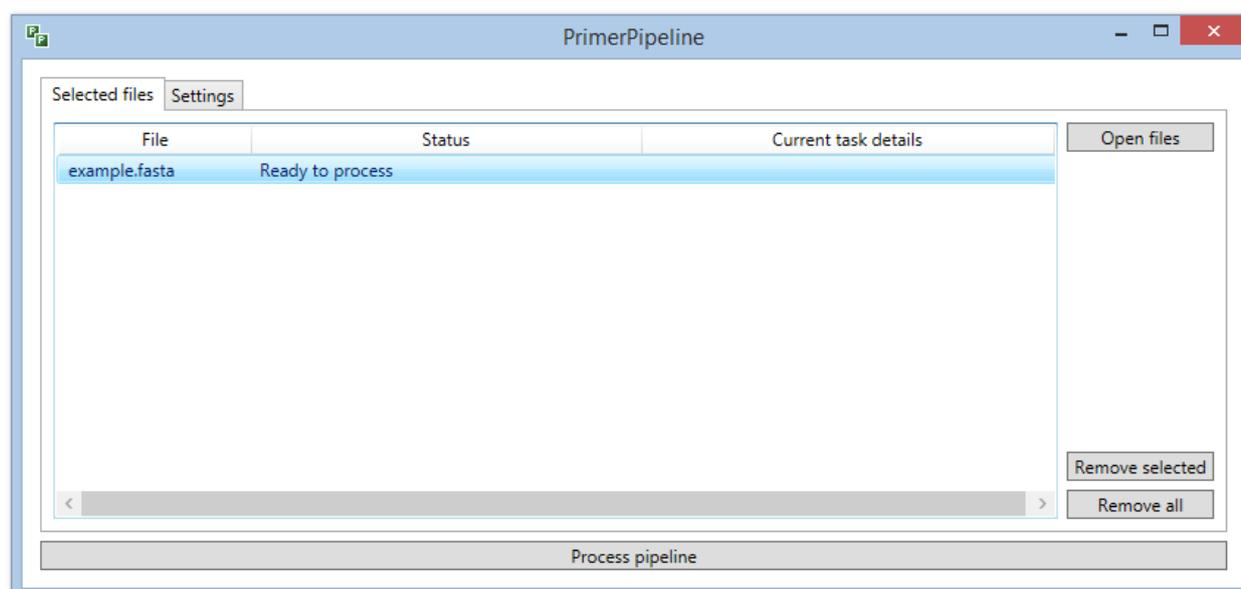
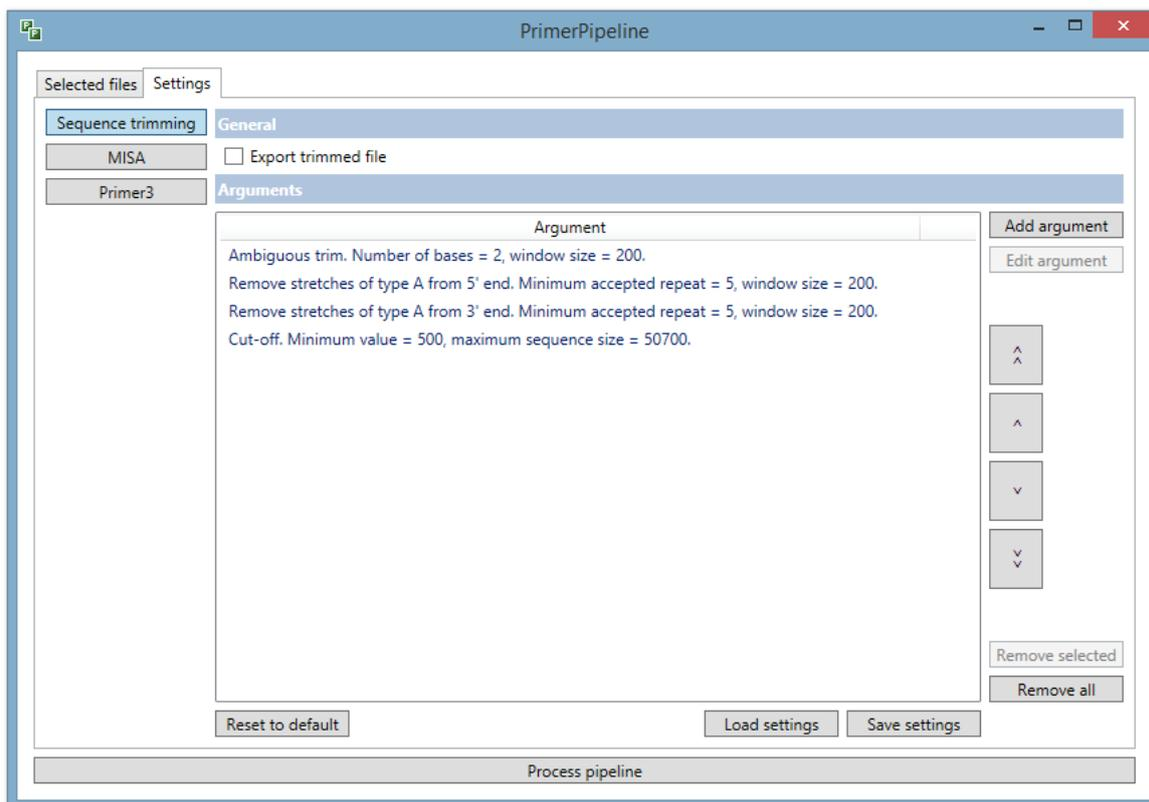

Figure 2. **PrimerPipeline** with input file loaded.
Figure 3. Settings Tab showing *Sequence trimming* selected.
- The status should now say 'Ready to process' (Figure 2).
Select the file you wish to run, (it will be highlighted in blue as in Figure 2) and then go to the *Settings* tab (Figure 3).
- Within the *Settings* tab select *Sequence trimming* on the left hand side (Figure 3).
- Click *Reset to default* to return to default settings at any point. Default Settings are shown in Figure 3.
- When happy with the settings for all three stages, return to the *Selected Files* tab (Figure 2)